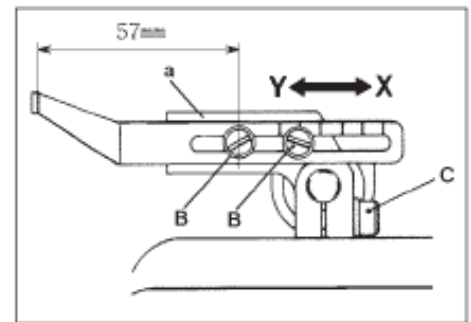

Fig. 18
There should be 57 mm to Needle Thread Take-Up Eyelet (A) from the center of Screw (B) when Needle Bar is at the highest position and also the portion (a) of Needle Thread Take-Up Bracket is horizontal (Fig.18) this is the standard position of the Eyelet (A). *To adjust the position of Needle Thread Take-Up Eyelet, loosen Screw (C) and make the portion (a) of Take-Up Bracket horizontal when Needle Bar is at the highest position.*To adjust the position of Take-Up (A) to right or left, loosen 2 Screws (B) and move the Eyelet to right or left.